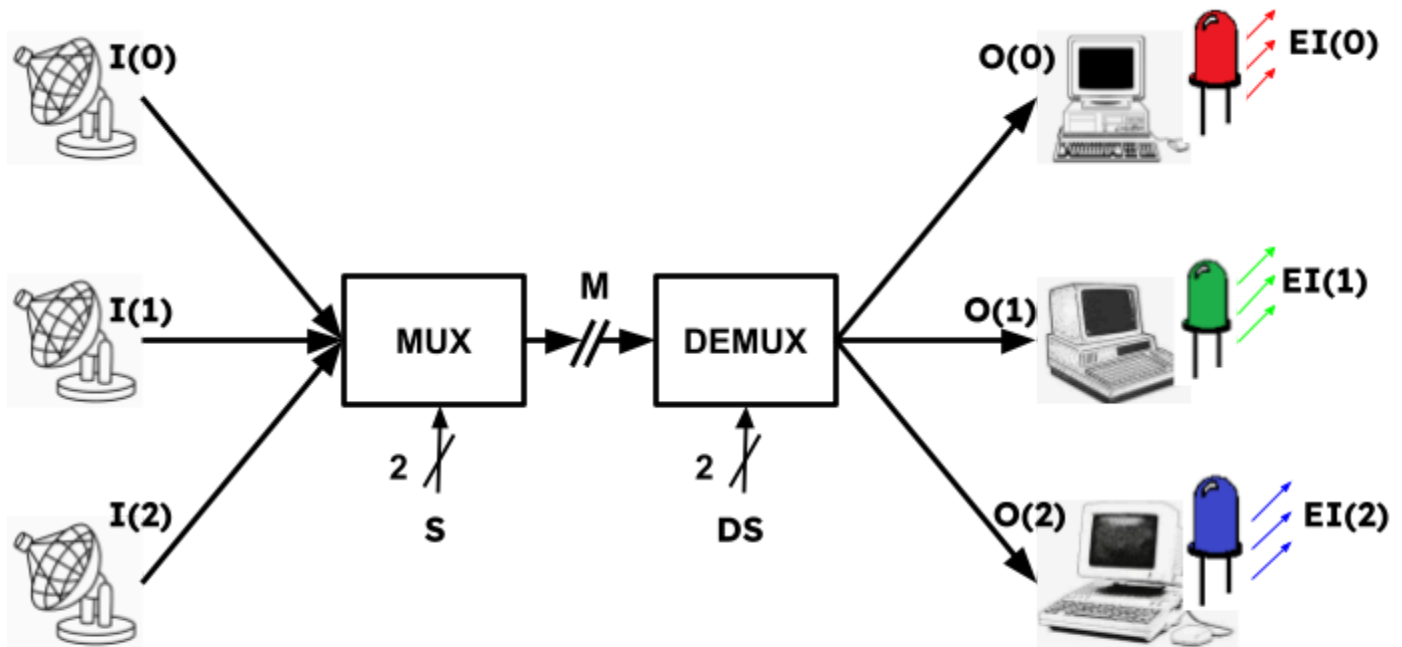

Figure 1
- i) The output of the MUX (shown as M in Figure 1) in terms of the three inputs and the **mux-select** signals.
- ii) The outputs of the DEMUX in terms of the MUX output (M) and the **demuxselect** signals. Include a truth table for each output (Follow the same order in the MUX truth table).
You have been hired by the NASA (UofA employees union) as a co-op student. One of your tasks is to design, build, and test a 3- input/1-output MUX and an accompanying 1- input/3-output DEMUX using AND, OR, and inverter gates. The layout of the system is shown in Figure 1. We see that there are three parabolic antennas, each with a remote data logger. Each data logger sends important digital data back to the control center, via a shared transmission medium, where the radio astronomers analyse them.
- (Part I: Simulation)** Consider the system demonstrated in Figure 1. Implement a MUX with 3 inputs,  $I$ , and  $S$  as the signal select. Connect the output of the MUX to your DEMUX with  $DS$  as data select and  $O$  as its output. Simulate your design and show the results using the test-bench file provided, "lab2\_part1\_tb". In writing the test-bench file we supposed your entity name is "lab2\_part1". **Test-bench imports your design as a component. Therefore, it needs your entity name. If you have used another name for the entity, open the test-bench file in Vivado and change the name in the component and port map sections.**